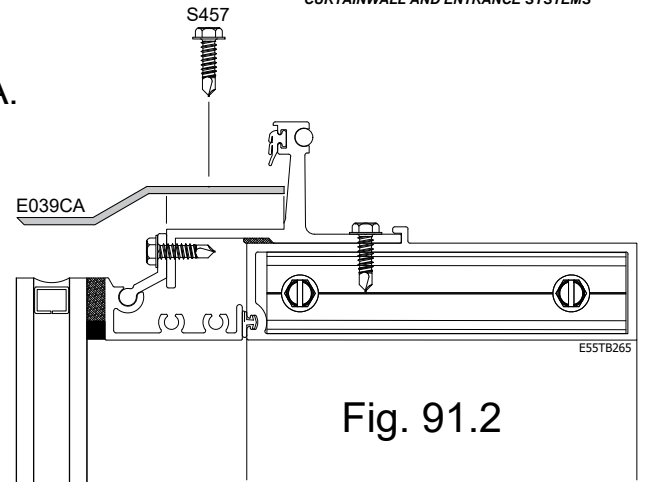

Fig. 91.2
Step 2: Install chicken head sill extender E039CA and secure with fastener S457 12" on center. Clean metal around fastener heads using Isopropyl two towel wipe and seal heads. See Fig. 91.2.